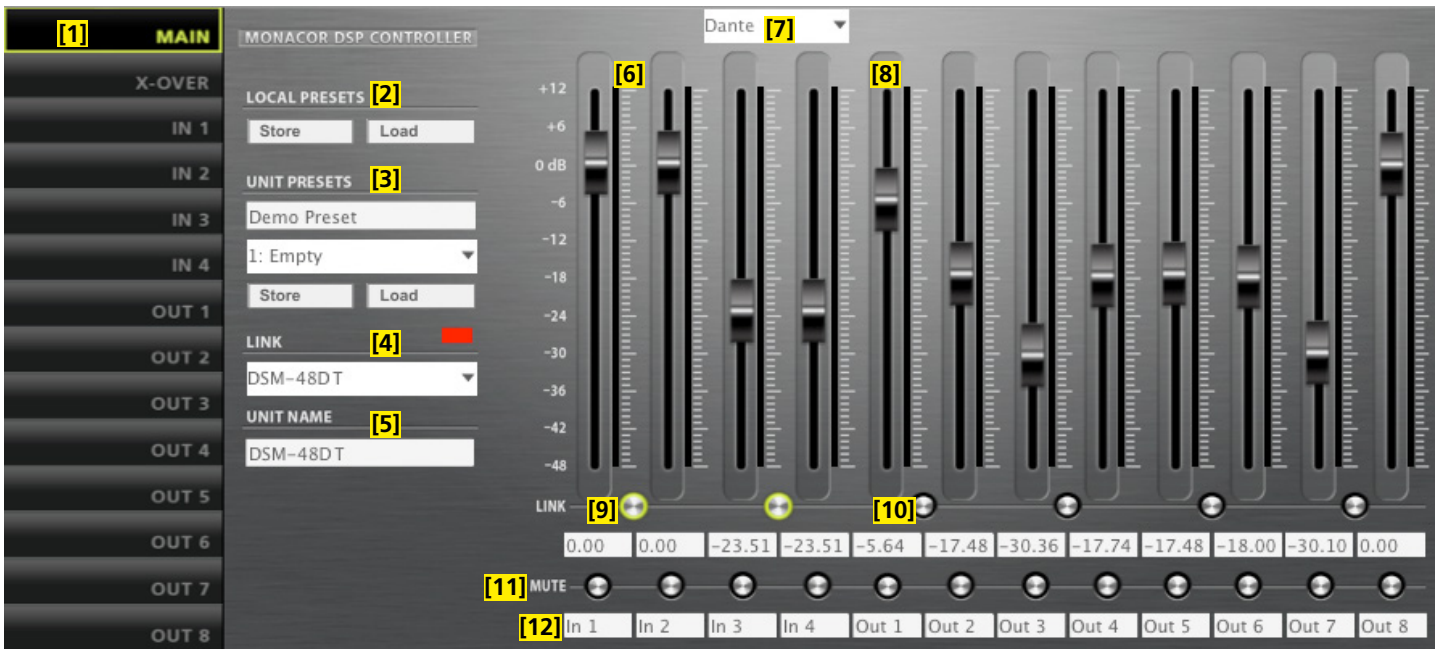

Fig. 17 Configuration window in the view MAIN, DSM-48...
- 3) In the view MAIN of the configuration window (fig. 17), select the signal source "Dante" from the list field [7] located above the controls of the channels IN3 and IN4.
8. Button ⏏ to call up the configuration window (fig. 17) for a unit that is “online”
Various virtual units with the additional designation "DEMO ..." will be added to the list. As for real units, the button (➔) can be used to call up the configuration window (☞ fig. 17).
The configuration window (fig. 17) with the view MAIN for the unit selected will appear. The colour field on the left-hand side, next to LINK [4], will indicate the connection status of the unit. When the
7.3.2 View MAIN (fig. 17)